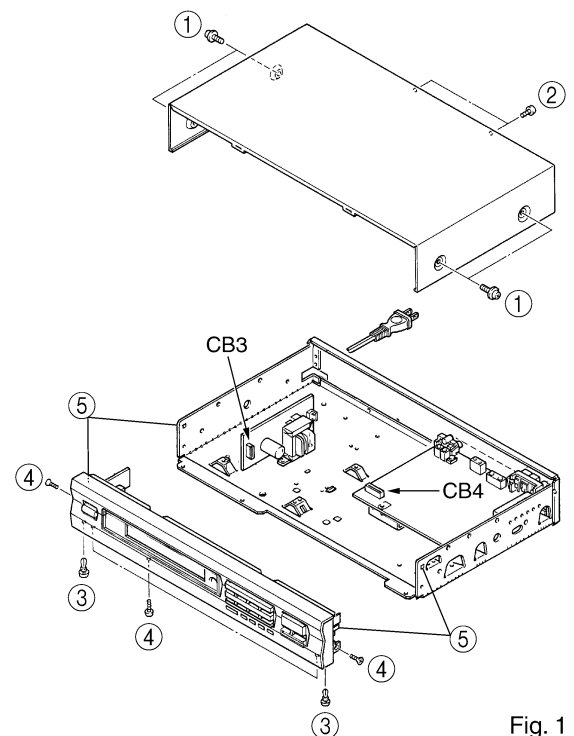

Fig. 1
Remove 4 screws (①) and 2 screws (②) in Fig. 1.
- a. Disconnect the connectors (CB3 and CB4) in Fig. 1.
- b. Remove 2 plastic rivets (③) in Fig. 1.
- c. Remove 5 screws (④) in Fig. 1.
- d. Unhook at 2 place (⑤) in Fig. 1.